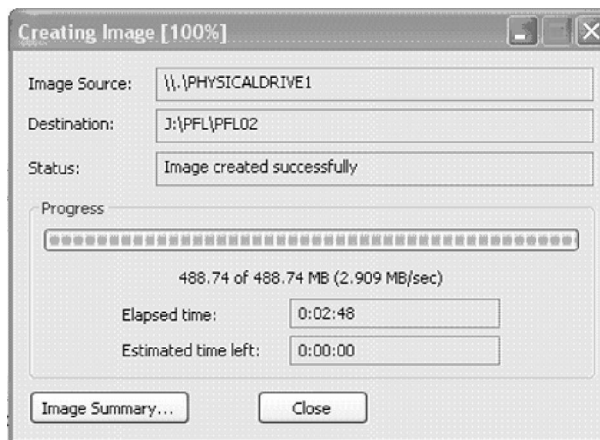

Figure 27 – Image Completion Screen
21. When the Drive/Image Verify Results window is closed, the Progress Screen shows that the Image was created successfully. The Summary Results can be displayed again by clicking the "Image Summary" button. See Figure 27 below.